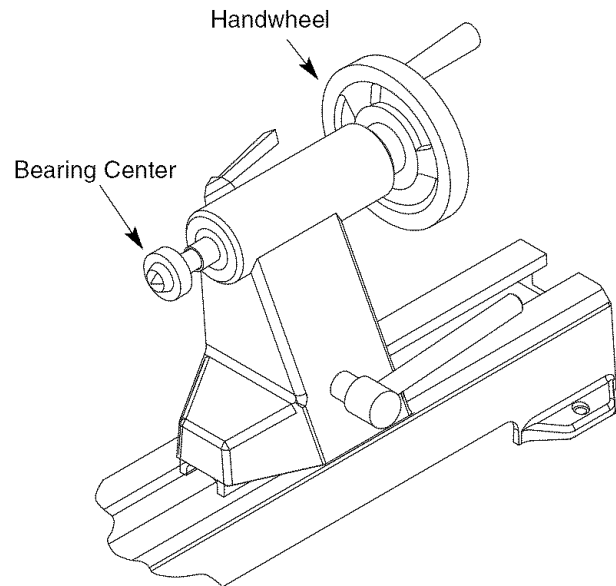

Figure 3
- To remove bearing center from tail stock ram, turn handwheel counterclockwise. Refer to Figure 3.